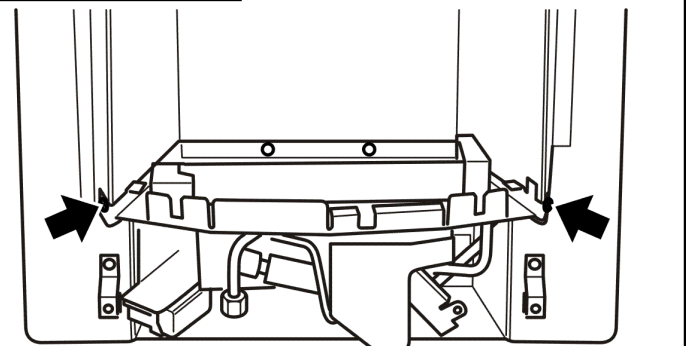

Figure 11. Burner attachment points
5. Detach the burner unit from the convector box by removing two screws (See figure 11). Lift the burner unit clear.